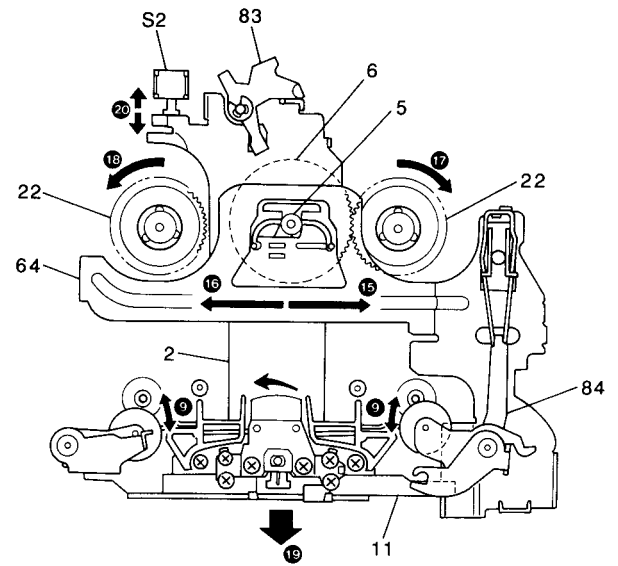
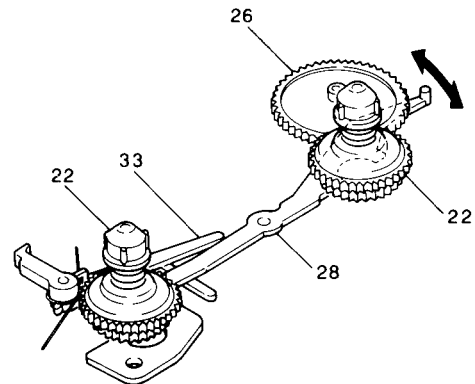

Fig. 11
Fig. 12
- e) The play gear metal (5) is engaged, per arrows (15) and (16) in Fig.11. Then play gear (6) is connected to take-up reel assembly (22) on forward side in FWD play, and connected to the other take-up reel assembly in REV play. Rotation from the play clutch (31) is transferred to take-up reel assembly per arrows (17) and (18) in Fig.11. As mentioned above, the direction in play mode can be changed. During play mode active, the head panel is moved backward by head panel return arm (88) in direction of arrow (19) in Fig.11. The Mute switch (S2) is turned on per arrow (20), and play mode is not reversed while FF/REW levers are pushed by operation of anti-reverse arm (33). See Fig.12.